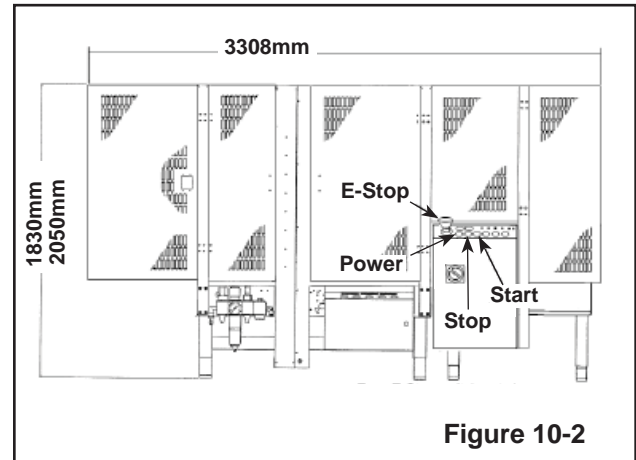

Figure 10-2
The Model 800rf Type 40800 Case Sealer is equipped with three STOP switches. Their locations are shown in Figure 10-2. Pressing either of the red E-Stop switches stops the machine, removing electrical power and air pressure from the case sealer. To restart the machine, you must turn and release the E-Stop switch and then press the RESET button and the START (I) button on the Electrical Control Panel. Pressing the STOP (O) button on the Electrical Control Panel stops the machine and does not remove power from the controller. To restart the machine, you must press the RESET button and then the START (I) button.